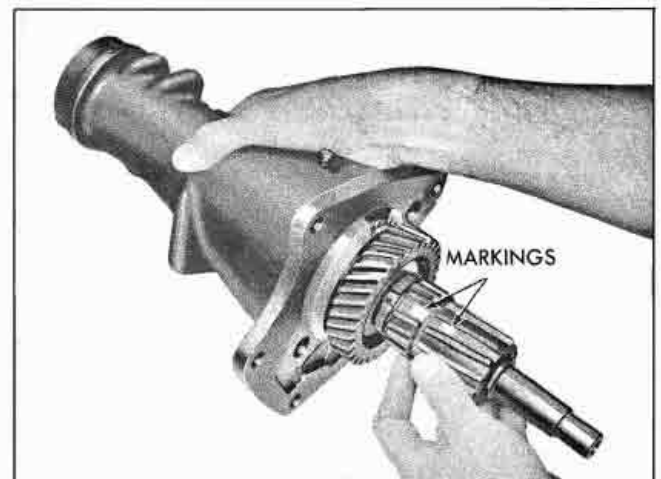

Fig. 7-53 Alignment of Synchronizer Clutch Splines on Mainshaft and Second Speed Gear
3. Align the clutch splines on mainshaft with the clutch splines on second speed gear so as to receive the two inner lugs of the synchronizing ring of 2nd and 3rd speed clutch. Mark with red lead for identification (Fig. 7-53).